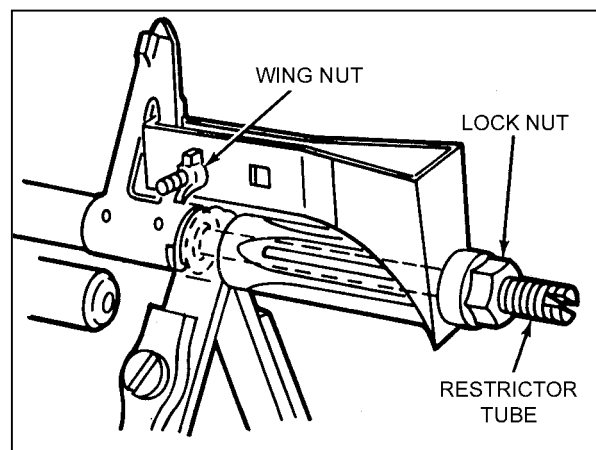

Figure 2-6. M13A1 blank firing attachment.
b. **Installation of the M13A1.** The M13A1 is installed by (Figure 2-6) loosening the lock nut, turning the restrictor tube out a few turns, and loosening the wing nut a few turns. The restrictor tube is inserted in the flash suppressor as far as possible and is clamped around the front sight. The wing nut is tightened finger tight. The restrictor tube is screwed in until it seats tightly against the muzzle end of the barrel to prevent gas leakage, and then the lock nut is tightened.